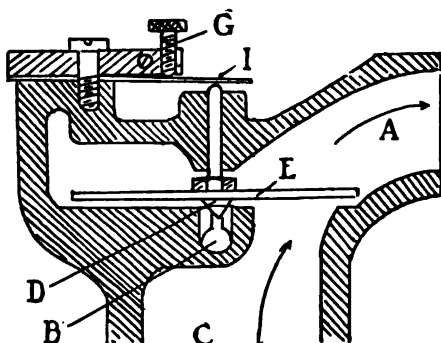

Fig. 3
known as a *mechanical mixing-valve*. A form that is still used on some motors is illustrated in Fig. 3. In this cut the inlet to the motor is shown at A, with the fuel-inlet at B, the air-intake at C, and the needle-valve at D. The needle-valve is attached to a thin, circular metal plate, or diaphragm, E, which fits over the air-passage and closes it when the motor is at rest. As soon as suction occurs the diaphragm is lifted and a small quantity of fuel is thus admitted through the needle-valve and combines with the intruding air. To regulate the amount of fuel the disk E may be adjusted to raise more or less by tightening or loosening the screw G, which bears upon a flat spring (I). This spring presses upon the end of the needle-valve stem D, and by tightening or loosening the screw more or less tension is exerted by the spring, thus permitting the diaphragm and needle-valve to raise from its seat just the proper distance to produce the best mixture. When correctly adjusted such devices give very good results, but they are not very "flexible"; or, in other words, they do not respond quickly to the varying demands of motors which are operated at widely varying speeds, as are automobile, motor-cycle, and other vehicle motors. For stationary engines that run at a constant speed they serve very well; but they are very easily affected by atmospheric conditions and require frequent adjustment.